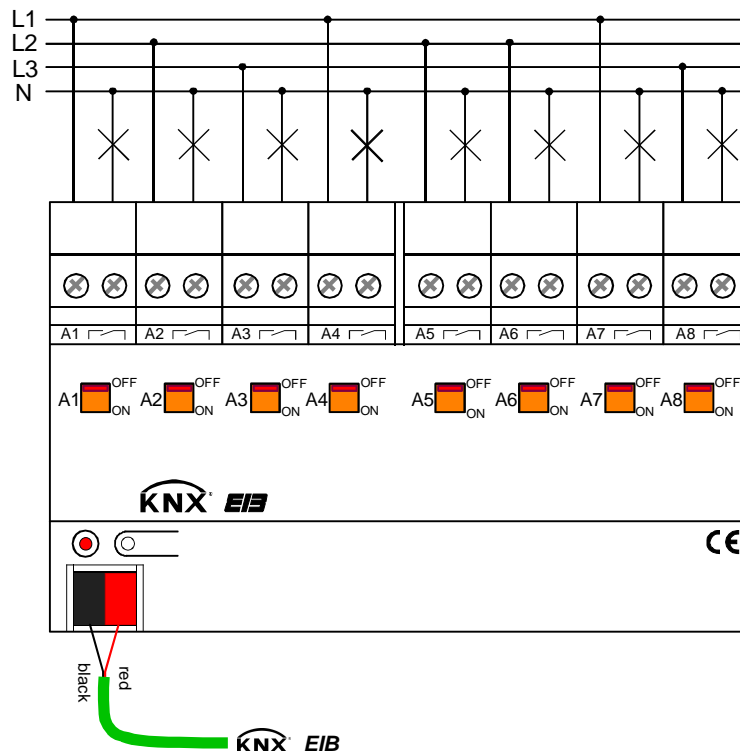

Fig. 1: Electrical connection
- Connect the loads and the bus line as shown in fig. 1 (connection example).